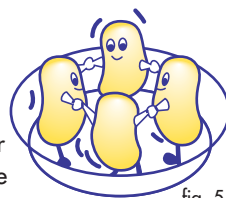

fig. 5
- 5) If you are cooking a number of portions of the same type of food (eg. boiled potatoes), arrange the portions **in a ring** around the outside of an ovenproof dish to ensure they cook evenly (see fig. 5).